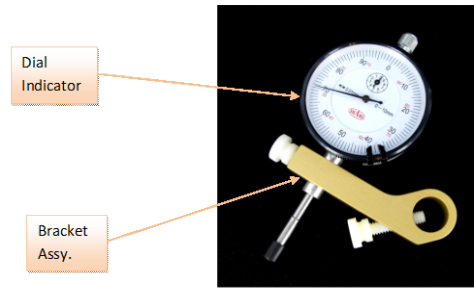

Figure 12
4.5.2.1 Remove the centering ring, dissolution vessel and assemble the dial indicator to the bracket assembly as shown in Figure 12.
4.6.2.1 Remove the centering ring, dissolution vessel and assemble the dial indicator to the bracket assembly as shown in Figure 12.
4.7.2.1 Remove the centering ring, dissolution vessel and assemble the dial indicator to the bracket assembly as shown in Figure 12.